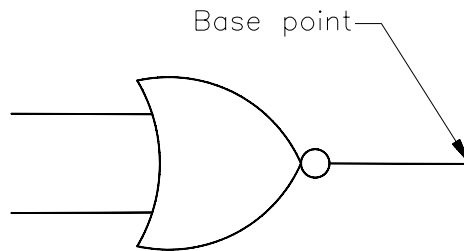

Figure 16-12 Drawing of block for Example 1
In this example, you will draw the object shown in Figure 16-12, and convert it into an annotative block, named NOR Gate. Next, you will insert the NOR Gate block into the drawing at the annotation scales of 1:1, 1:2, and 1:8 and notice the changes in the size of the annotative blocks inserted in the drawing.
1. Start a new file in the **2D Drafting & Annotation** workspace and draw the object, as shown in Figure 16-12.
4. Choose the **Pick point** button from the **Base point** area; the **Block Definition** dialog box will disappear from the screen. Specify the base point, as shown in Figure 16-12.